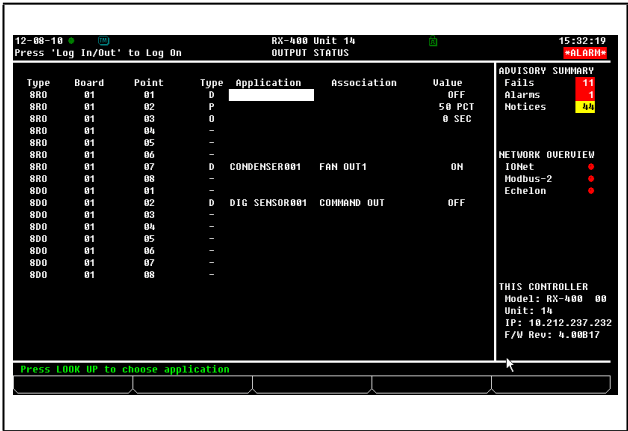

Figure 9-11 - Output Status Screen
Open the Digital Output screen by selecting a Digital (**D**) input from the Output Status screen **Figure 9-11** and pressing **F1** (SETUP).
Open the Analog Output screen by selecting an Analog (A) output from the Output Status screen **Figure 9-11** and pressing **F1** (SETUP).